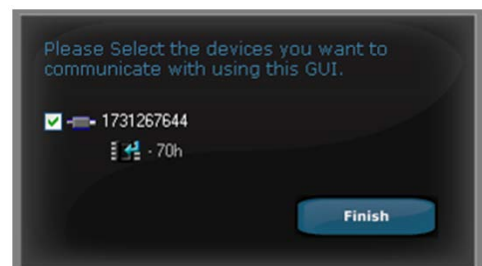

Figure 8. Getting Started.
6. Launch the **ADP1051.exe** file. The GUI software should report that the ADP1051 has been located on the board as shown in Figure 8.